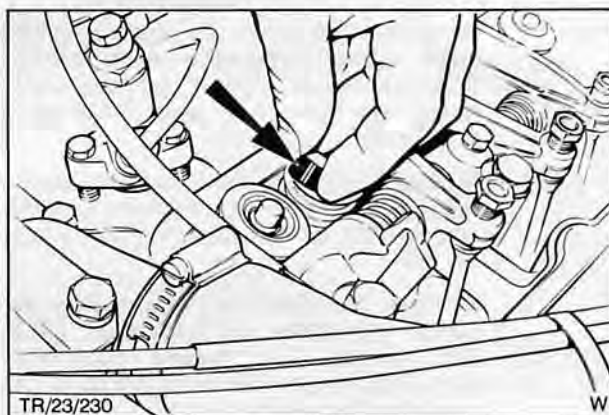

Fig. 53. Installation of valve stem cap
38. Refit valve cap (Fig. 53) and push rod, slide rocker arm in position and adjust valve clearance.